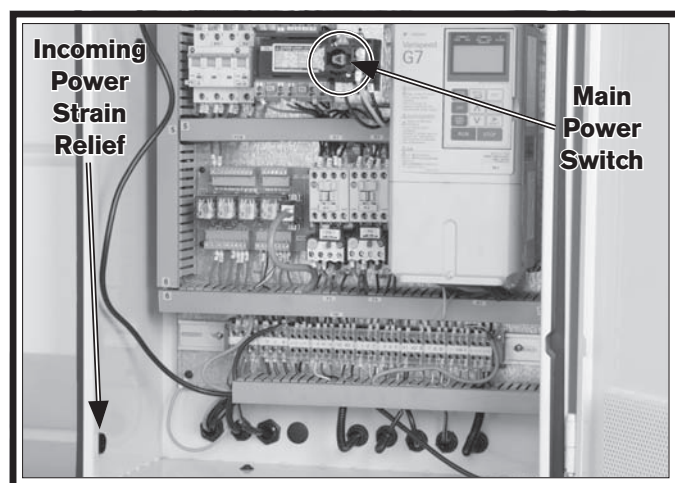

Figure 14. Location to connect power inside main electrical cabinet.
1. Unlock and open the main electrical cabinet door, and install a strain relief in the location shown in **Figure 14**.
2. Thread the power cord through the strain relief, and up to the main power switch shown in **Figure 14**.